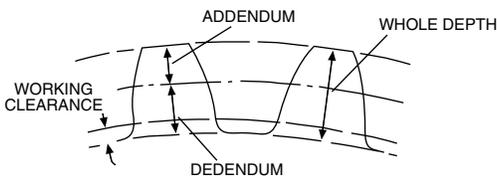

Figure 2.2C
**Addendum:** the distance from the top of a tooth to the pitch circle. (See Figure 2.2C)
**Dedendum:** the distance from the pitch circle to the root circle. It equals the addendum + the working clearance. (See Figure 2.2C)
**Working Clearance:** the distance from the working depth to the root circle. (See Figure 2.2C)